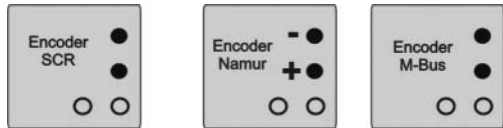

Figure 9: Encoder sticker
- Use only a screened cable (DIN EN 60079-14) to connect the encoder and ensure that the pin assignment is correct (see sticker next to the cover of the terminal box), Figure 9.